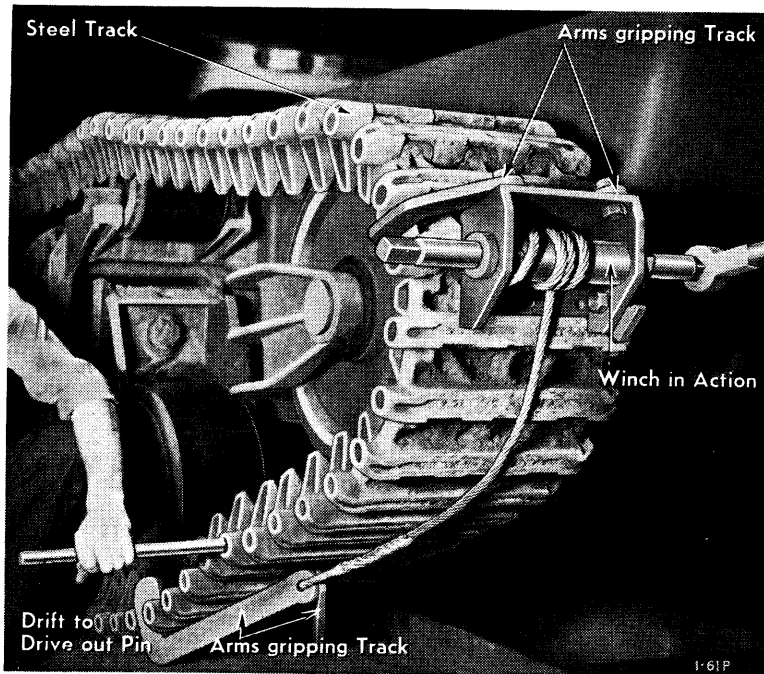

Fig. 47. Undoing steel track
outer ends of the links. Run out the cable and attach the hooks to the track as close as possible to the first bogie wheel as in Fig. 47. Tighten the strainer until the portion of the track below the tensioning wheel is relieved of tension. Any track pin in this section may then be driven out. See Fig. 47.
5. Place the track strainer tool, Fig. 47, on the track with the extension arms gripping the sprocket. Run out the cable and attach the hooks to the track as closely as possible to the first bogie wheel. Tighten the strainer until the ends of the tracks are together and the holes lined up for insertion of the track pin.